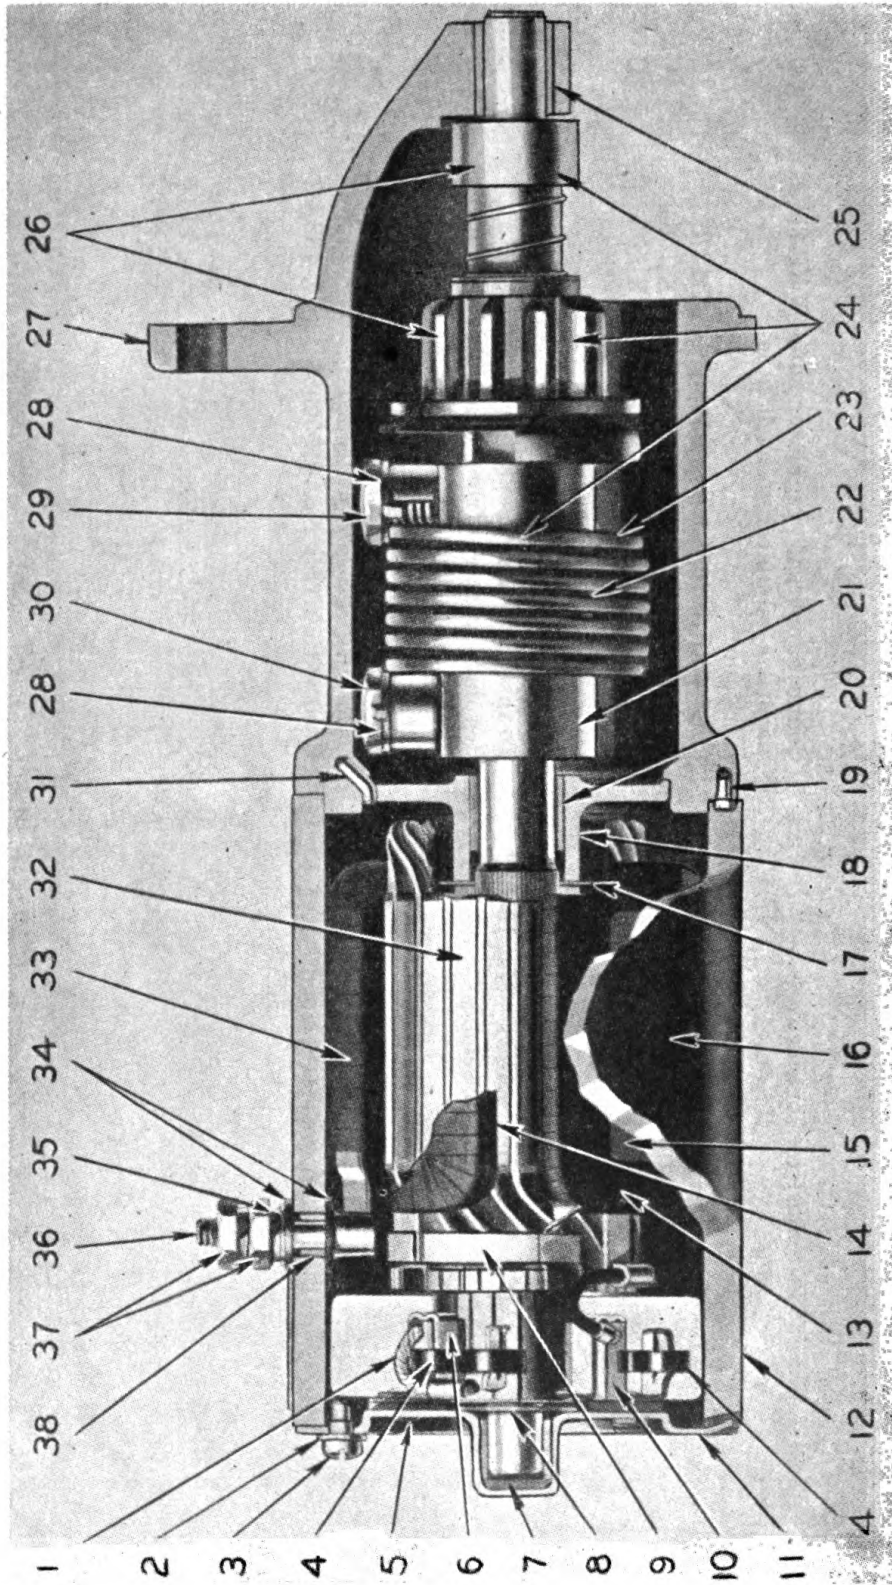

Figure 23.—Starting motor, sectionalized view
i. Starting motor (figure 23).—